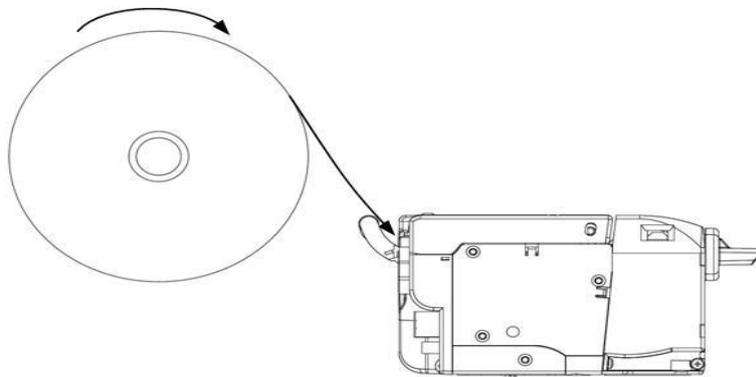

Fig. 4.6-1 Paper loading
- 1) Turn on the power and then place the paper head in the paper feeding path as shown in the Fig.4.6-1: